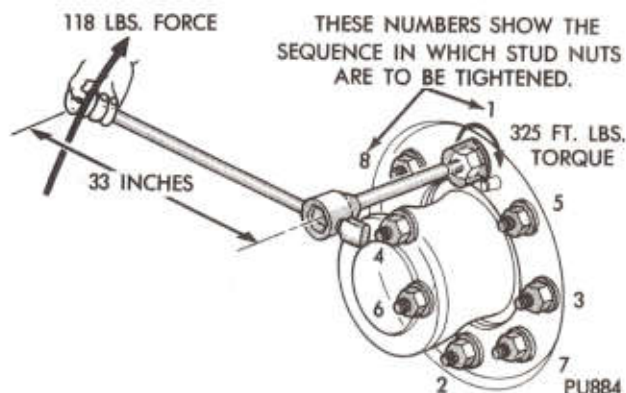

Fig. 11—Eight-Stud Dual Rear Wheel Tightening Sequence
(1) Tighten the wheel nuts in the numbered sequence to a snug fit (Fig. 11).